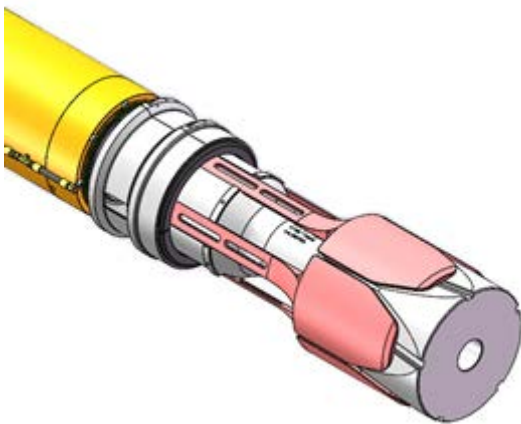
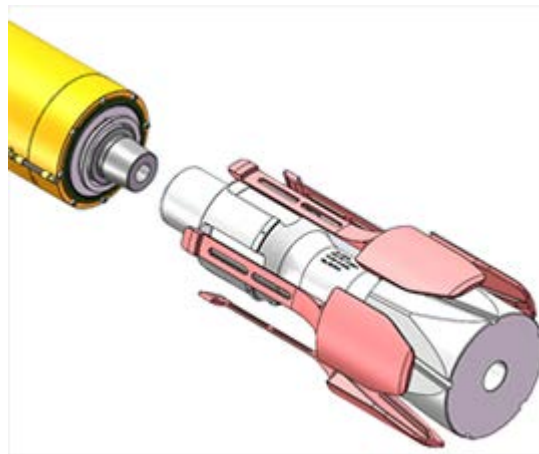

Figure 1
Figure 2
1. Dismantle the CDS – See Figure 1 and Figure 2 (Casing Stop Bumper and Collar and Spearhead Assembly not shown).